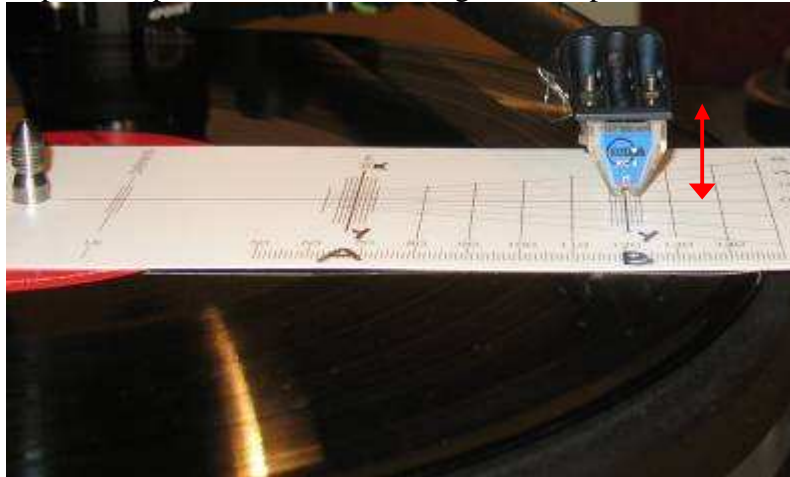

Fig. 15 Alignment at B
8. If the cantilever is not in alignment then rotate protractor until it is in alignment somewhere along the line “x-y” though stylus will probably not be at zero point B. Raise the cueing device a bit for better viewing. (Fig.15)